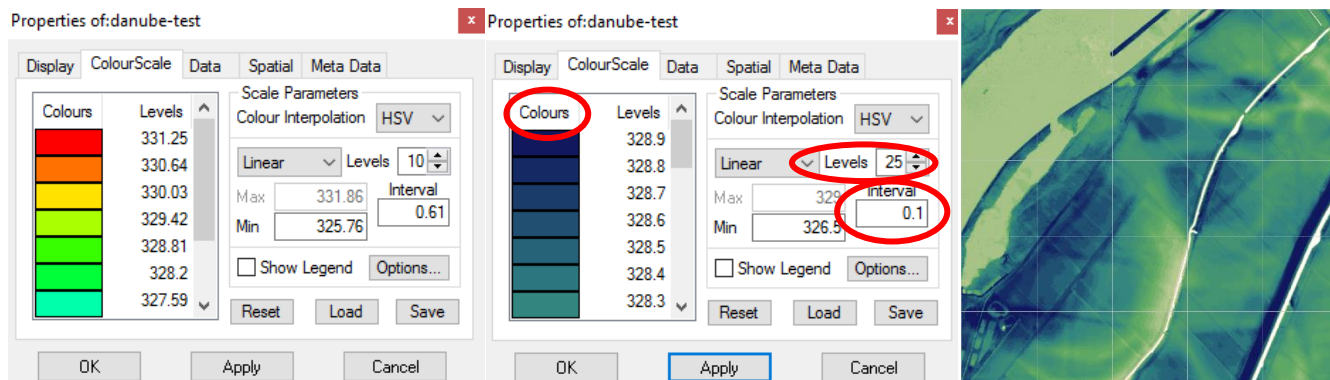

Figure 2: Editing the colour scale.
4. Then go to the “ColourScale” tab in the “Properties” window (see Figure 2). Here, you can edit the color scale by adjusting the number of levels and altering the interval to increase the visibility of height differences in your DEM. It might also be practical to alter the range of values. Note that you can choose a color for the minimum value (e.g. a very light shade) and a color for the maximum value (e.g., a very dark shade), then click on “Colours” and the color gradient is filled automatically. This step is important to identify the model boundaries in the next step.